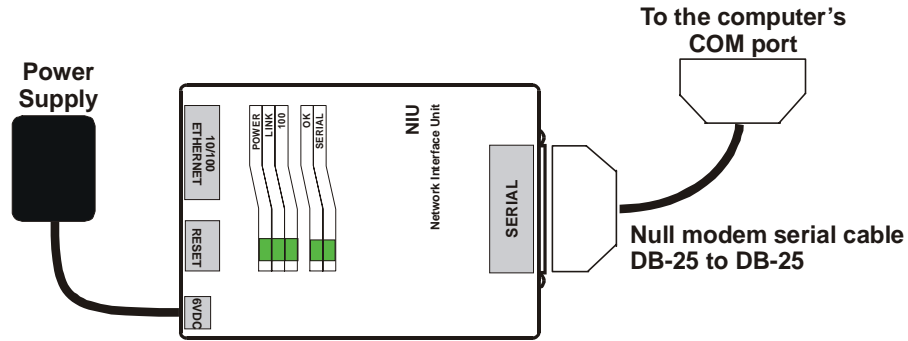

Figure 18 Connecting the NIU to the computer
- Step 2:** Connect one end of the null-modem serial cable to the DB25 port of the NIU (Figure 18).